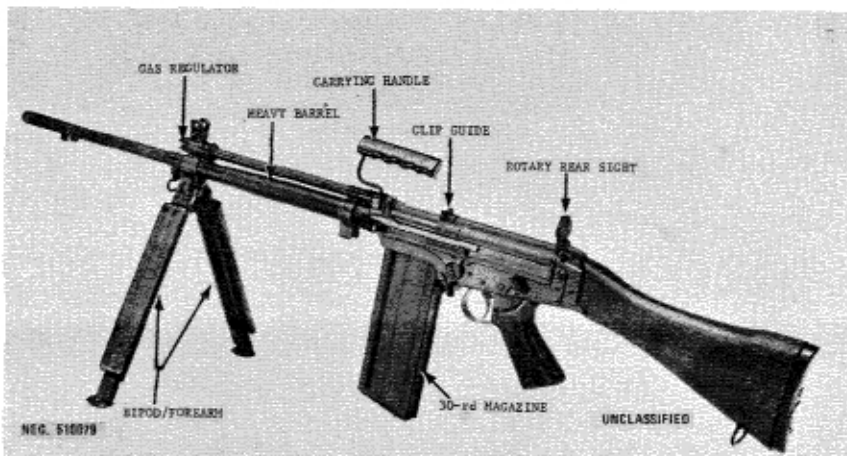

Figure 80. Canadian C2A1 automatic rifle.
d. When equipped with a sturdy bipod and a heavy barrel, the FAL (FALO) is used as an automatic rifle or light machinegun. The Canadian C2A1 (fig80) and the FAL automatic rifles (fig 81) and 82) are examples of such weapons. The instructions given for the regular FN/FAL rifle are also applicable to these automatic rifles. All FN/FAL rifles fire the 7.62x51-mm NATO cartridges (sec V).